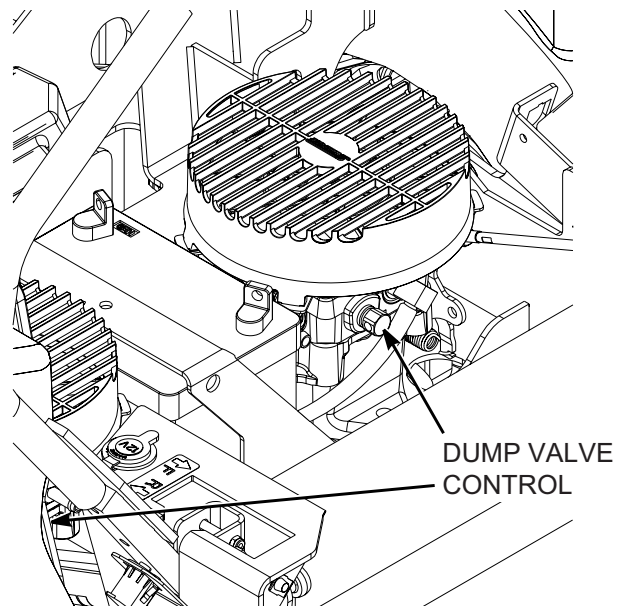

Figure 4-5. Dump Valve Control
10. **Dump Valve Control Levers (Figure 4-5).** Located on the hydraulic pumps, used to "free-wheel" the mower. Rotating clockwise until they stop allows the unit to move under hydraulic power. The levers must be in this position and torqued to 10 lb-ft during operation of the mower. Rotating counter-clockwise allows the mower to be moved by hand (free-wheeling). See Figure 4-5.